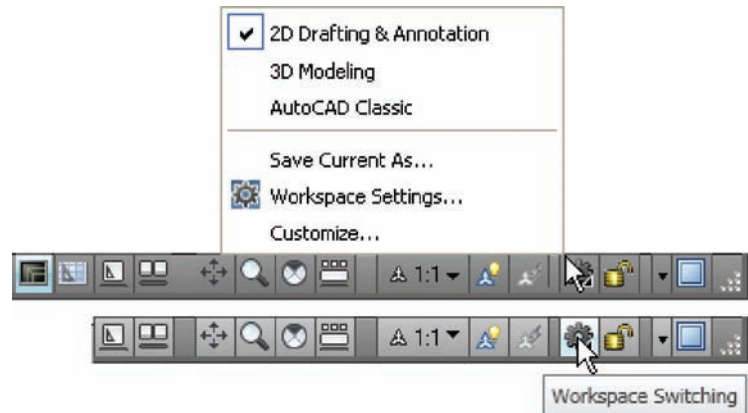

Fig. 1.5 The **Workspace Switching** dialog appearing when the **Workspace Switching** button is clicked
- **Workspaces Switching** menu: appears with a *click* on the **Workshop Switching** button in the status bar (Fig. 1.5).